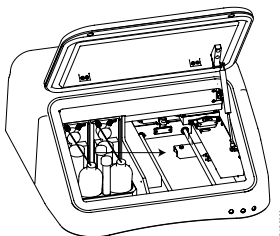

Figure 24. Placing the optical head in the Home position.
12. Return the optical head to the home position by pushing the optical head from the center of the instrument all the way to the right (Figure 24).
6. Return the optical head to the Home position (Figure 24).